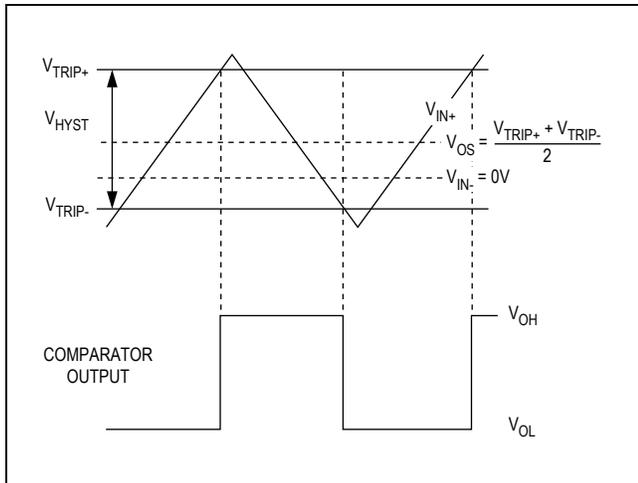

Figure 1. Input and Output Waveform, Noninverting Input Varied
- Note 2:** The input-referred trip points are the extremities of the differential input voltage required to make the comparator output change state. The difference between the upper and lower trip points is equal to the width of the input-referred hysteresis zone (see Figure 1).
- Note 3:** V_{OS} is defined as the center of the input-referred hysteresis zone (see Figure 1).
The hysteresis in a comparator creates two trip points: one for the rising input voltage and one for the falling input voltage (Figure 1). The difference between the trip points is the hysteresis. When the comparator's input voltages are equal, the hysteresis effectively causes one comparator input voltage to move quickly past the other, thus taking the input out of the region where oscillation occurs. Standard comparators require hysteresis to be added with external resistors. The MAX941/MAX942/MAX944's
Figure 1 illustrates the case where IN- is fixed and IN+ is varied. If the inputs were reversed, the figure would look the same, except the output would be inverted.